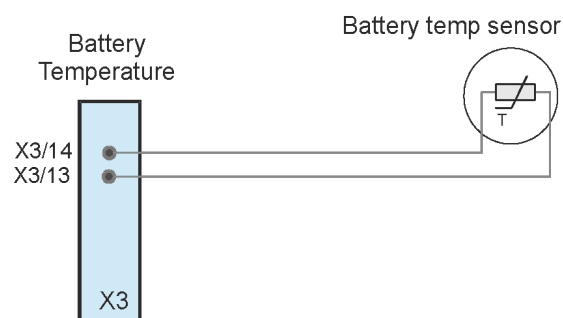

Figure 8.4 Battery temperature sensor
2. Connect the cable to X1 terminals 5/6 as shown in Figure 8.4. These connections are not polarity sensitive.